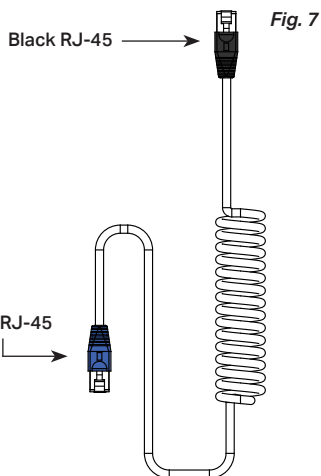

Fig. 7
1. Locate the **Coiled Blue to Black RJ-45 cable** (see Fig. 7).